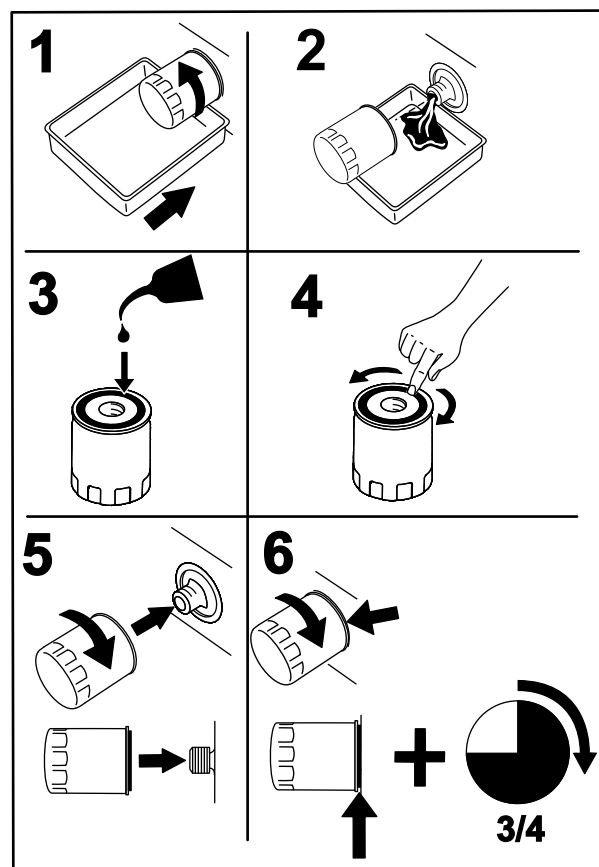

Figure 51
- Change the engine oil filter (Figure 51).